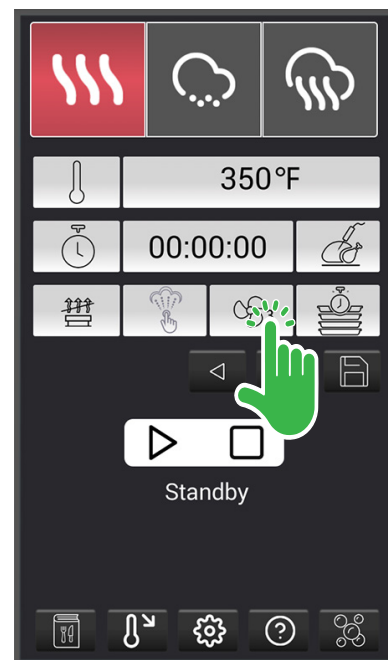

Fig. 15
5. Touch the Fan Speed icon (Fig. 15) to toggle between the various available fan speeds.